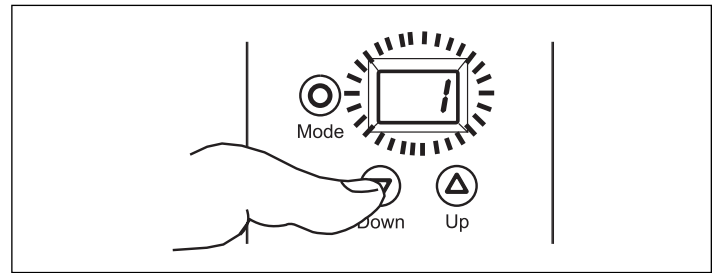

Figure 22
Press the  button again to make adjustments. Use the up  or down  button to activate (1) or deactivate (-) (Figure 22).